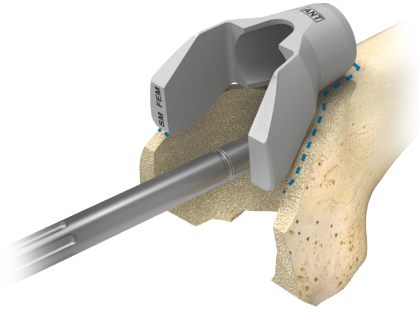

Figure 1
Place the same side femoral metaphyseal cone provisional onto the anterior cortex aligning with the exposed extension post to simulate the size of the distal void that the cone will accommodate. For example, if the defect is on a left distal femur, use the “Left” femoral metaphyseal cone provisional. This will help provide an estimate of the A/P and M/L position of the defect, relative to the center of the femoral canal. With a methylene blue or bovie, trace around the outside of the provisional where the bone remains to serve as a guide for bone removal (Figure 1).
**Option 2:** Use a larger metaphyseal cone which will have a larger diaphyseal portion. If this option is selected, ensure that a larger size cone is available and that it will fit medial-laterally within the metaphysis when sized up against the distal bone (Figure 1). Reference the Metaphyseal Cone - Femur Compatibility Chart at the end of this technique.